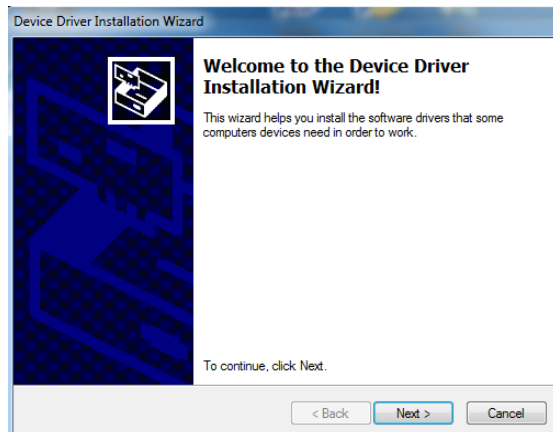

Fig 5
4. The installation of the driver will begin. Refer to Fig 5 and 6